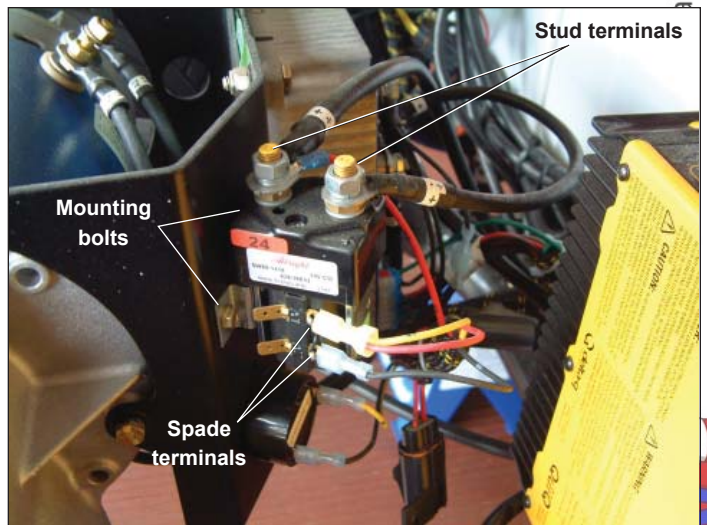

Figure 10-24. Contactor Connections
- Remove two nuts, washers and cables from stud terminals (Figure 10-24).
- Remove two nuts, washers, bolts and contactor (Figure 10-24).
- Position new contactor to mounting bracket (Figure 10-24).
- Install heavy cables to stud terminals. Install control circuit wires to spade terminals (Figure 10-24). Double check wiring diagram to ensure connections are correct.